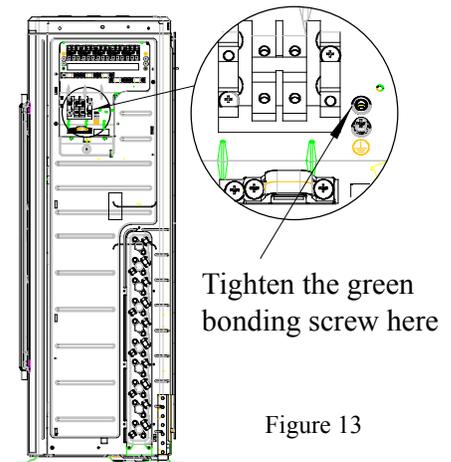

Figure 13
- (1). Open the side plate.
- (2). Connect the power cord to the terminals “L1”, “L2” and also the ground screw, and then connect the wiring terminals “N(1),2,3” of the indoor unit to those of the outdoor unit correspondingly. Please use the green bonding screw to connect the grounding wire. The location is shown in figure 13.
- (3). Fix the power cord with wire clips.
- (4). Feed the power cord through the rubber ring.